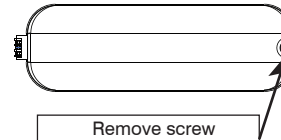

Fig 1
- Remove screw from the top of fitting (see Fig 1) to remove diffuser